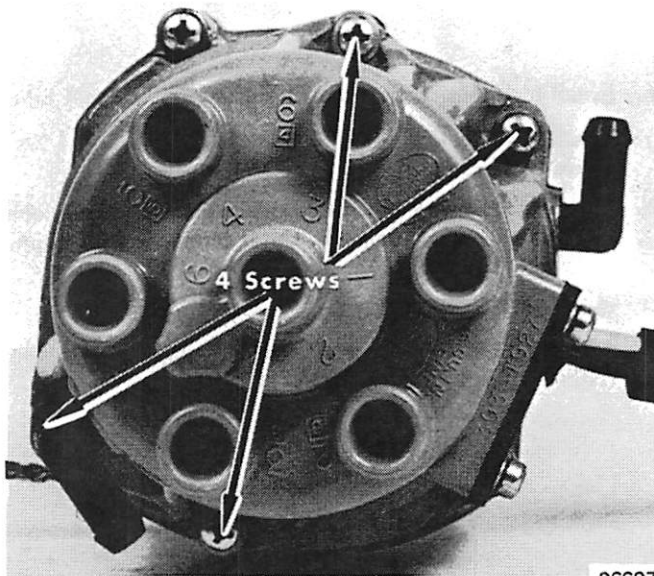

Figure 1. Removing Distributor Cap
1. Remove 4 nuts, washers and screws from distributor housing cap and remove distributor cap from adaptor. (Figure 1)